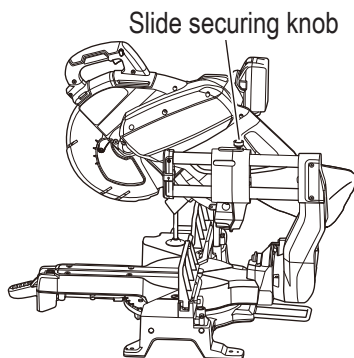

Fig. 20
4. Slide carriage system (Fig. 20)
For chop cutting operations on small workpieces, slide the cutting head assembly completely toward the rear of the unit and tighten the slide securing knob. To cut wide boards up to 312 mm, the slide securing knob must be loosened to allow the cutting head slide freely. (Fig. 20)